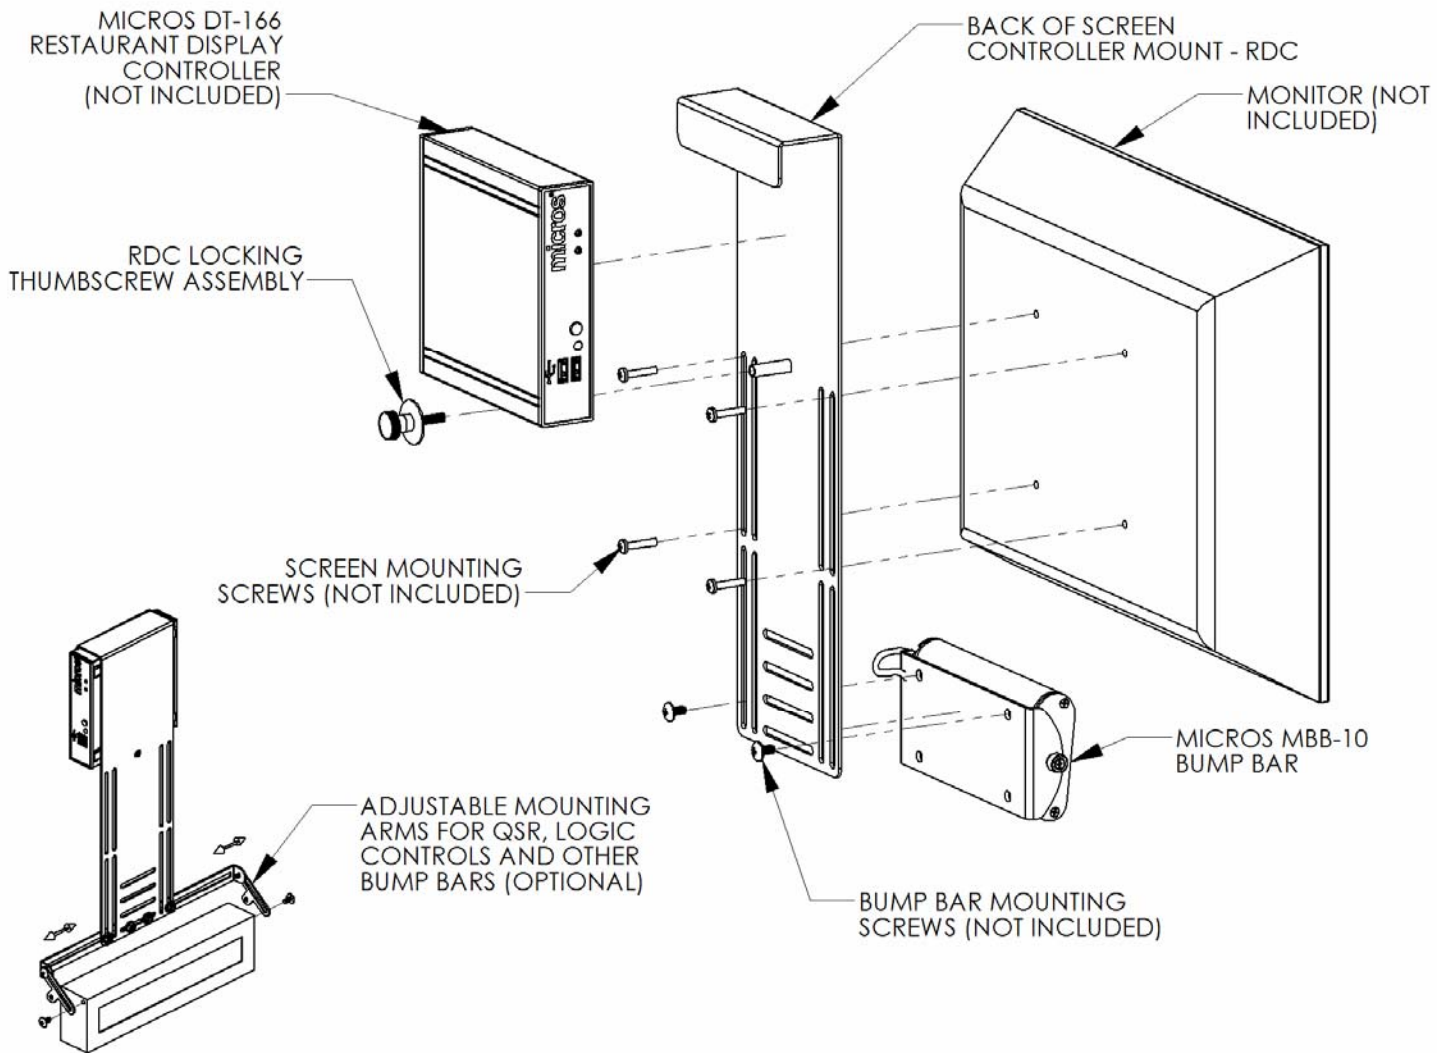

Figure 1 – Back of Screen Controller Mount-RDC shown with restaurant display controller, monitor and Micros MBB-10 Bump Bar.
1. Examine the contents of the optional *Back of Screen Controller Mount-RDC* hardware kit (See Figure 1). Note that the arms and tee tangs of the hardware kit can be custom configured to attach a wide variety of bump bars, card swipes, speakers, etc. to the mounting plate.
3. Carefully slide the RDC unit into the bent section and under the clamping washer (See Figure 1). Center it on the back of the *Back of Screen Controller Mount-RDC* plate and tighten the thumbscrew to secure the RDC unit to the plate.